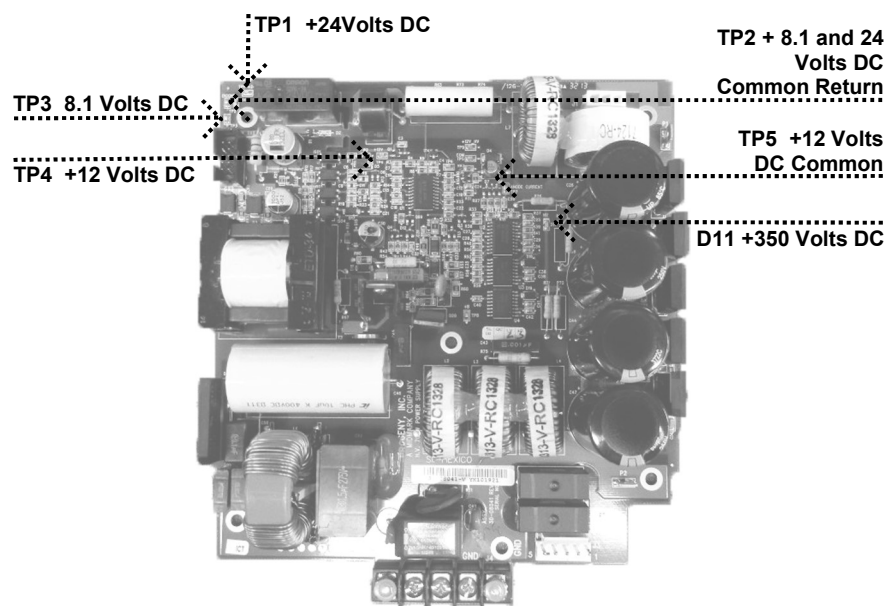

Figure 57
1. On the Power Supply Board, observe that the power supply indicator D11 +350volts DC is illuminated, as shown in Figure 57. Illumination represents proper stored energy for an exposure. If this indicator is not illuminated, it will be necessary to replace this board.
3. On the Power Supply Board, use TP2 as a common test point to check TP1 +24 volts DC and TP3 8.1 volts DC. Then use TP5 as the common return to check TP4 for the presence of +12 volts DC, as shown in Figure 57. Should any of these voltages not be present, replace the Power Supply Board. If each voltage is present, check other voltages on the Logic Board.